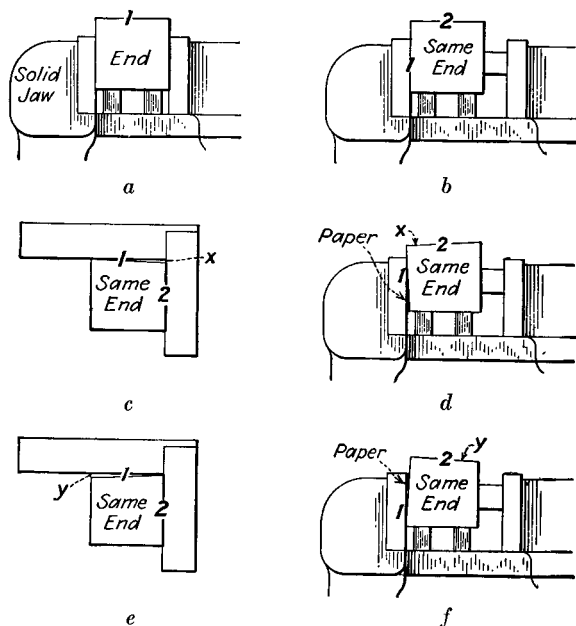

**Fig. 2-46.** The four successive steps in planing the sides of a rectangular block.
in Fig. 2-46, then using this surface as a seat against the solid jaw, plane the adjacent side (or edge) (2). If the shaper vise jaw is square and smooth and if the surface first finished is clean and free from burrs and properly seated against the vise jaw, the second surface machined will be square with the first surface. In order to make sure that the surface first machined is properly seated against the vise jaw, it is customary to use a rod or strip between the movable jaw and the work. This will obviate any tendency for the work to change its position, owing to any "give" in the movable jaw.